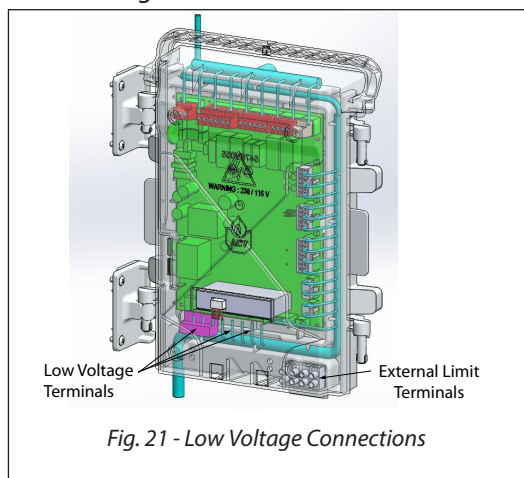

Fig. 21 - Low Voltage Connections
The low voltage terminals are located at the bottom of the CTRLMax control module. The line voltage terminals are located in the lower right corner as shown in Fig. 21 below.
1. Connect a dedicated 120 VAC/15A service to the line voltage terminals located internally in the lower right corner, as shown in *Fig. 21 below*.
2. Connect the CH circulator wiring to the line voltage terminals located internally in the lower right corner, as shown in *Fig. 21 on the left*. This circulator is typically used to supply heat to the central/space heating loop.
3. Connect the DHW circulator wiring to the line voltage terminals located internally in the lower right corner, as shown in *Fig. 21 on the left*. This circulator is typically used to supply heat to an indirect hot water heater.
4. Connect the P3 circulator wiring to the line voltage terminals located internally in the lower right corner, as shown in *Fig. 21 on the left*. This circulator is typically used to circulate water through the GALLANT in primary/secondary piped systems.
5. Connect the P4 circulator wiring to the line voltage terminals located internally in the lower right corner, as shown in *Fig. 21 on the left*. This circulator is typically used as a dedicated circulator to a second space heating zone.
1. Connect the DHW aquastat or temperature sensor wires to low voltage terminals X4-1&2 located at the bottom of the CTRLMax control module as shown in **Fig. 21 on page 34**.
3. Connect the external limit wires to the Manual Reset Limit or Auto Reset Limit low voltage terminals located on the lower right corner of the CTRLMax control module housing as shown in **Fig. 21 on page 34**.
1. Connect the system temperature sensor wires to low voltage terminals X5-3&4 located at the bottom of the CTRLMax control module as shown in **Fig. 21 on page 34**.